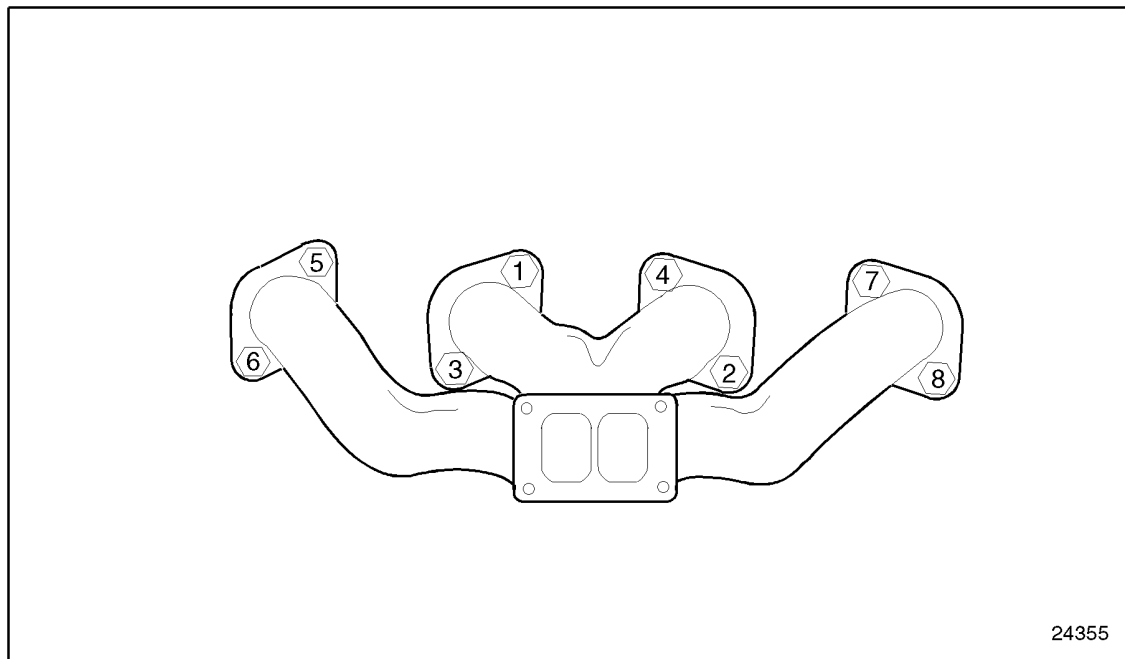

Figure 7-5 Exhaust Manifold Bolt Tightening Sequence
2. Install the exhaust gaskets (2) to the guide studs.
7. Torque the bolts to 58-73 N·m (43-54 lb·ft) using the tightening sequence. See Figure 7-5.
11. Torque the bolts to 73 N·m (54 lb·ft) again. See Figure 7-5.